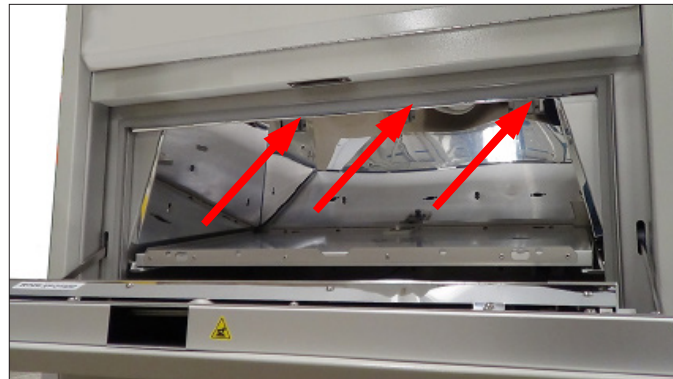

Figure 6.3a: Irradiance sensor locations.
- The irradiance sensors are attached to the rear chamber wall (Figure 6.3a).